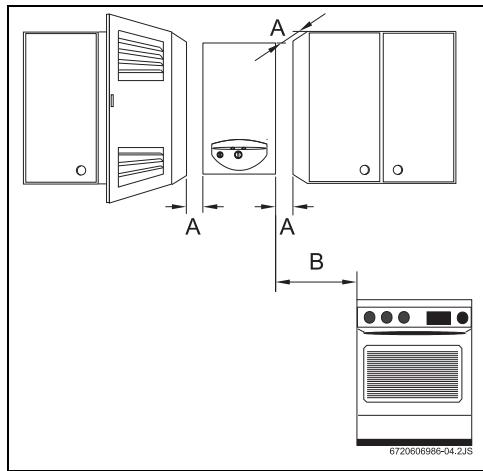

Fig. 13 Minimum distances
- Respect the minimum installation measurements indicated in Fig. 13.
- Ensure adequate access for maintenance work, respecting the minimum distances indicated in Fig. 13.